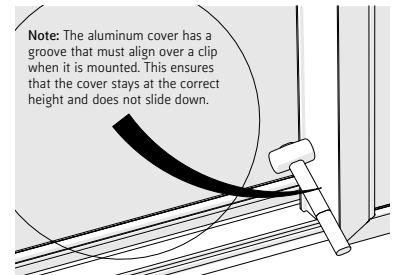

Figure 22
21. Reinstall the sash cover (figure 22).